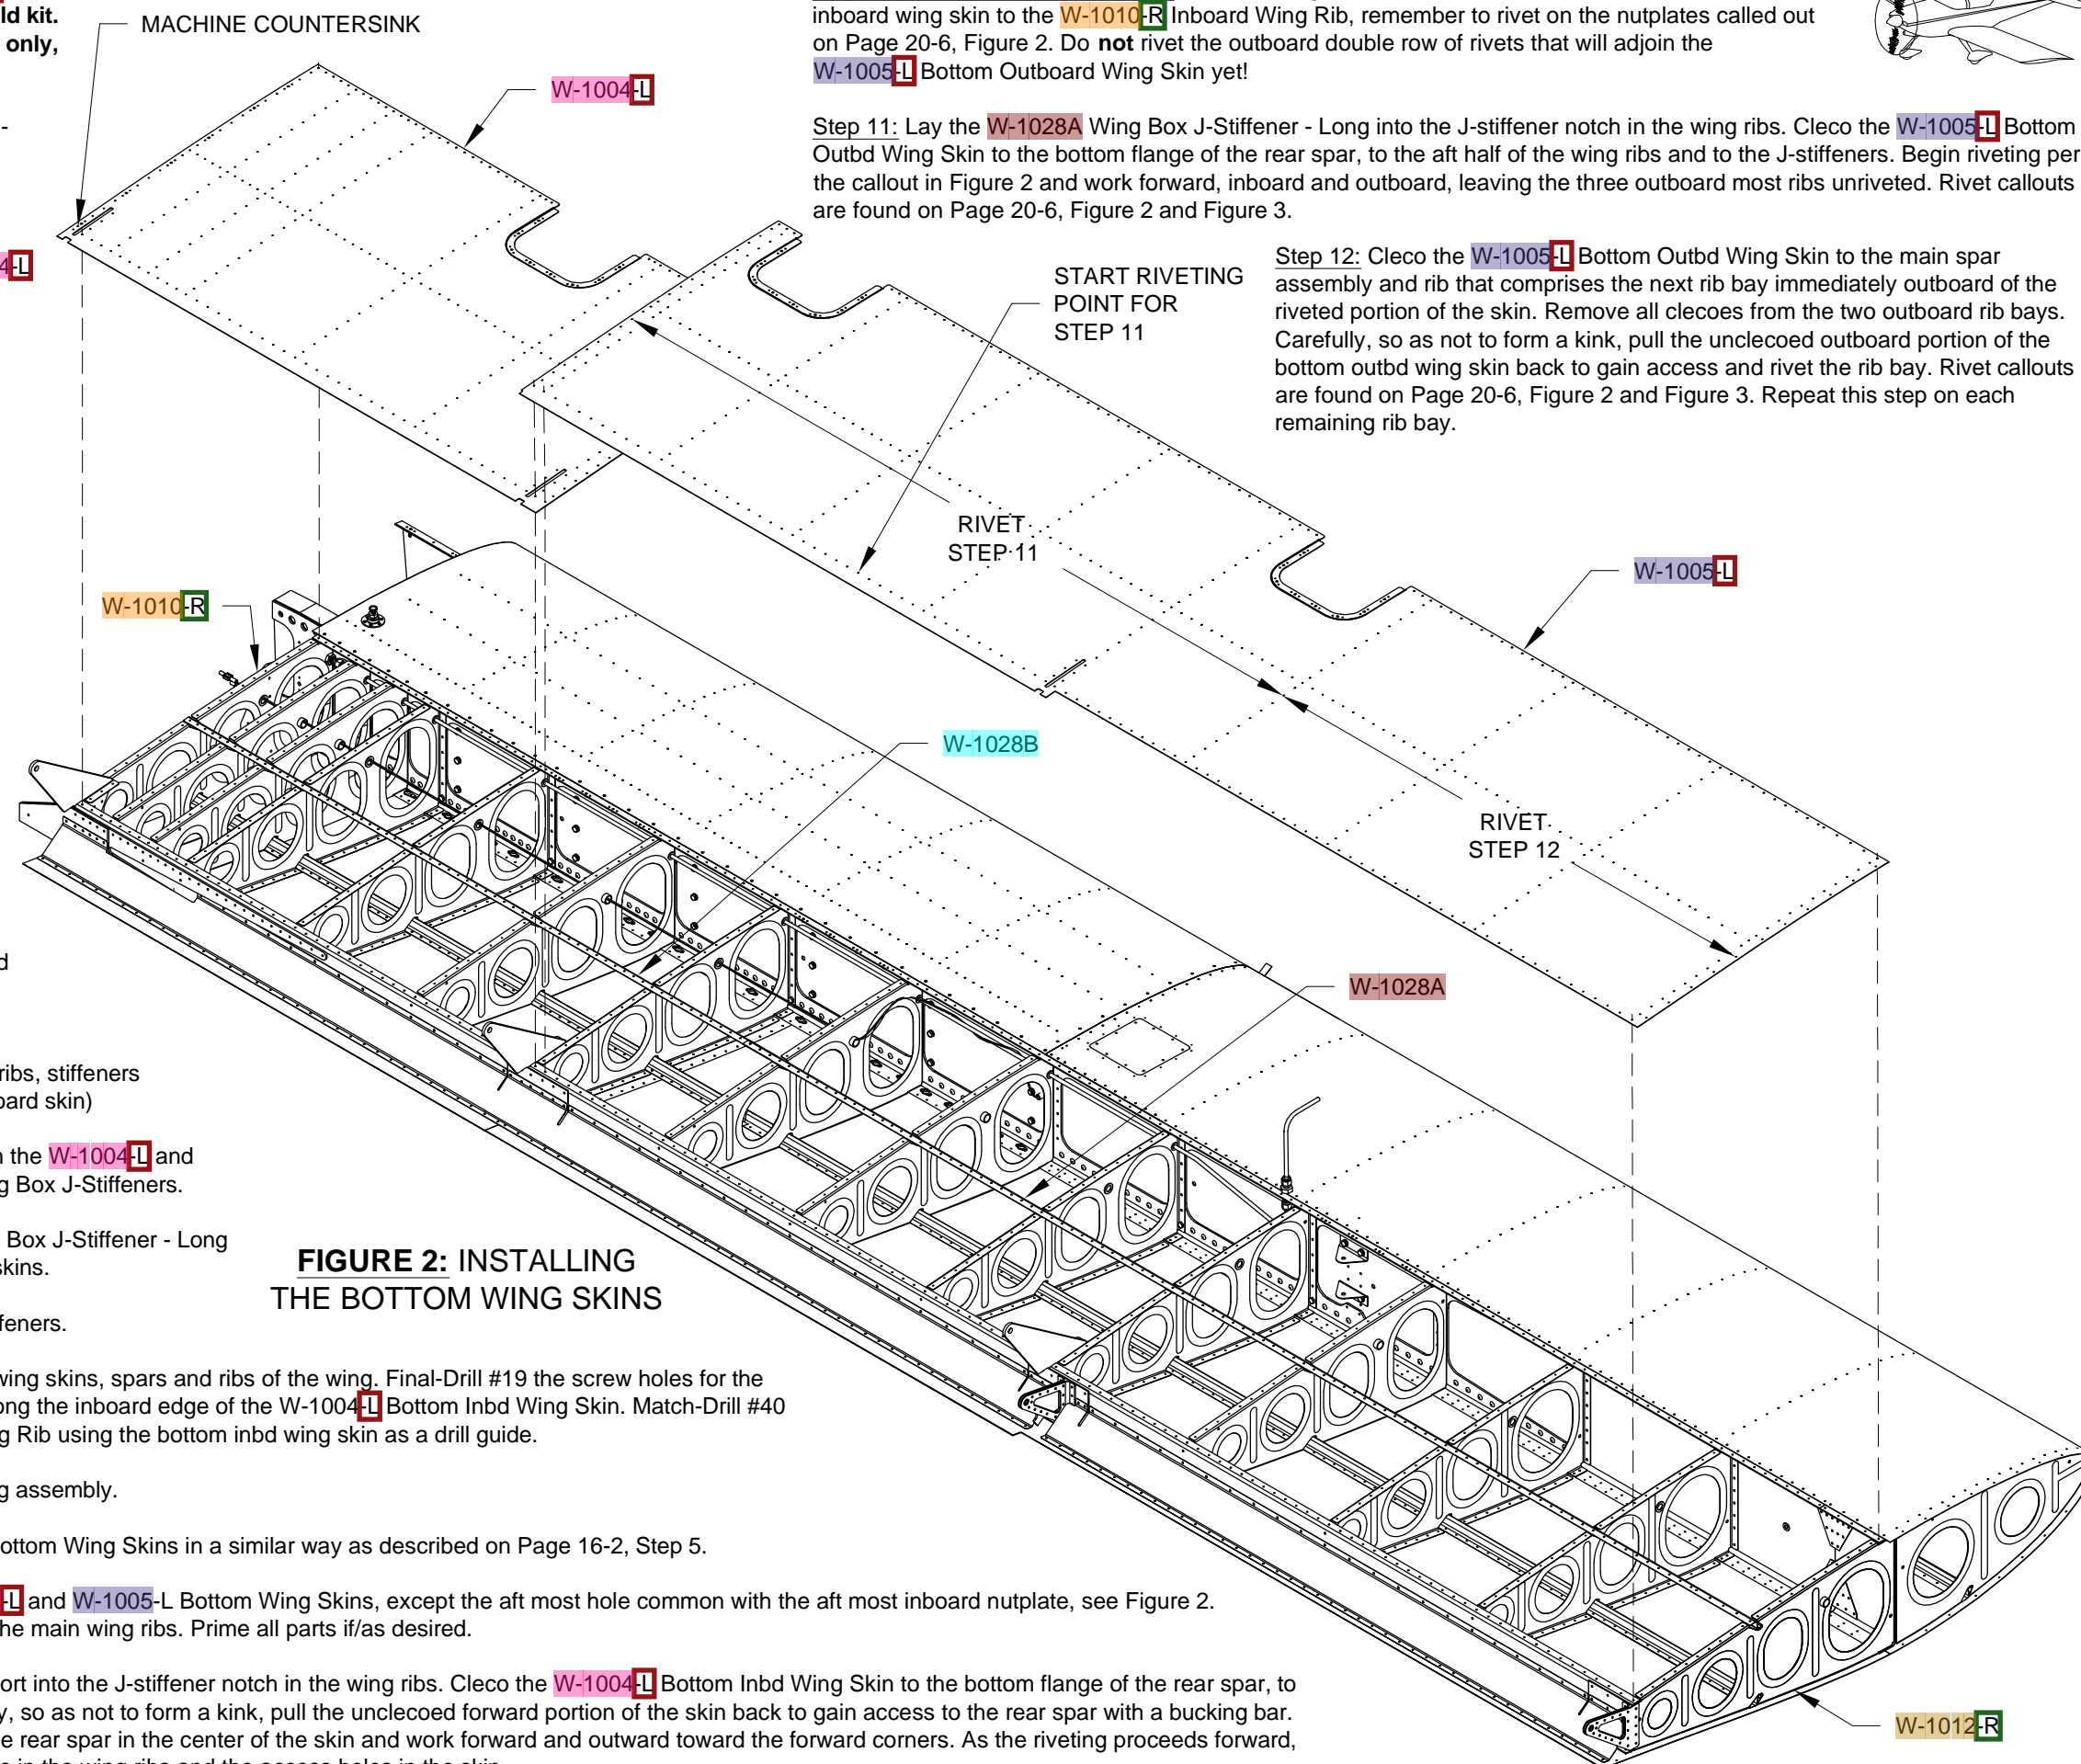

FIGURE 2: INSTALLING THE BOTTOM WING SKINS
Step 10 (Standard Kit): Lay the **W-1028B** Wing Box J-Stiffener - Short into the J-stiffener notch in the wing ribs. Cleco the **W-1004-L** Bottom Inbd Wing Skin to the bottom flange of the rear spar, to the aft half of the wing ribs, and to the wing box J-stiffener. Carefully, so as not to form a kink, pull the unclecoed forward portion of the skin back to gain access to the rear spar with a bucking bar. Rivet callouts are found on Page 20-6, Figure 2. Begin riveting at the rear spar in the center of the skin and work forward and outward toward the forward corners. As the riveting proceeds forward, gain access for bucking the rivets through the larger lightening holes in the wing ribs and the access holes in the skin.
Step 10 (Standard Kit - Continued): When riveting the bottom inboard wing skin to the **W-1010-R** Inboard Wing Rib, remember to rivet on the nutplates called out on Page 20-6, Figure 2. Do **not** rivet the outboard double row of rivets that will adjoin the **W-1005-L** Bottom Outboard Wing Skin yet!
Step 11: Lay the **W-1028A** Wing Box J-Stiffener - Long into the J-stiffener notch in the wing ribs. Cleco the **W-1005-L** Bottom Outbd Wing Skin to the bottom flange of the rear spar, to the aft half of the wing ribs and to the J-stiffeners. Begin riveting per the callout in Figure 2 and work forward, inboard and outboard, leaving the three outboard most ribs unriveted. Rivet callouts are found on Page 20-6, Figure 2 and Figure 3.
Step 12: Cleco the **W-1005-L** Bottom Outbd Wing Skin to the main spar assembly and rib that comprises the next rib bay immediately outboard of the riveted portion of the skin. Remove all clecoes from the two outboard rib bays. Carefully, so as not to form a kink, pull the unclecoed outboard portion of the bottom outbd wing skin back to gain access and rivet the rib bay. Rivet callouts are found on Page 20-6, Figure 2 and Figure 3. Repeat this step on each remaining rib bay.